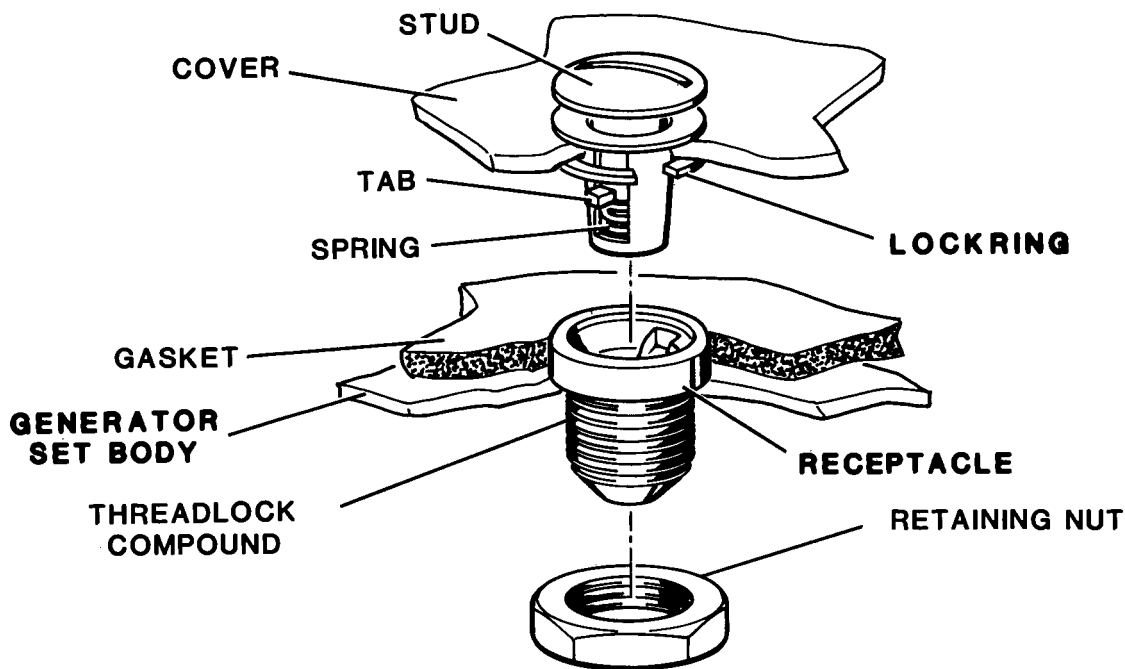

Figure 2-1. Turnlock Fastener
(1) Remove damaged gasket. Use trichlorethylene (O-T-634) to thoroughly clean area.
(2) Measure and cut new gasket to fit.
(3) Peel backing from adhesive side of new gasket and firmly press in place. Trim to fit.
e. Turnlock Fastener Replacement. (See figure 2-1.)
(1) Receptacle replacement.